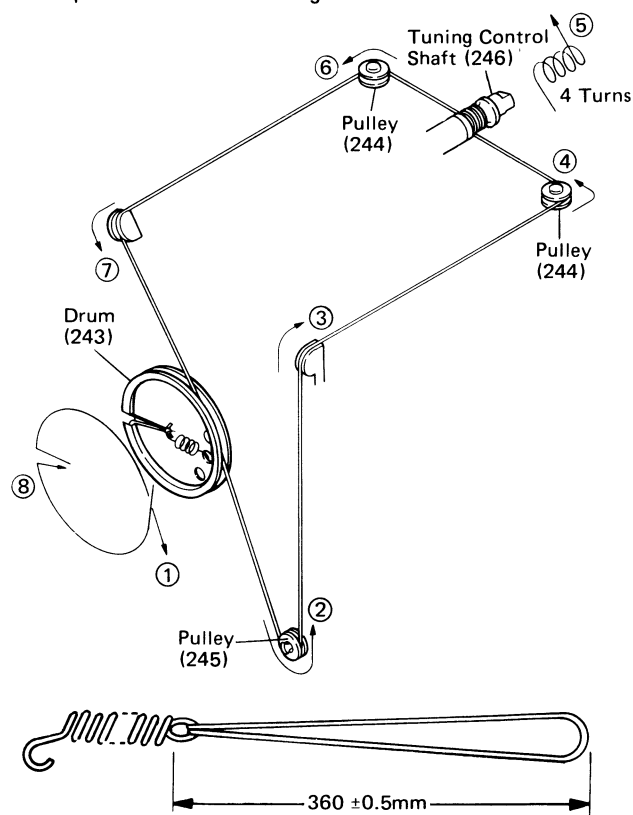

Figure 2-1
1. Turn the drum fully clockwise and stretch its cord over the parts in the numerical order — as shown in Figure 2-1.